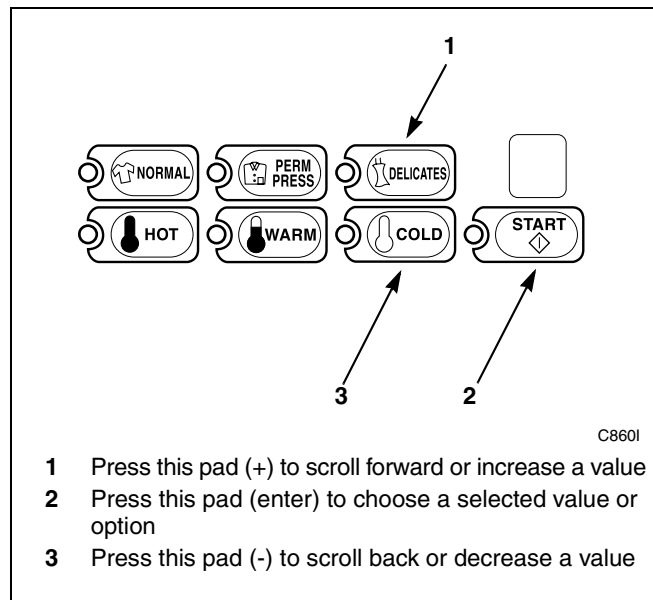

Figure 51
5. Press the DELICATES (+) or the COLD (-) keypad to increase or decrease the current length of hours to the desired number of hours. Refer to *Figure 51*.